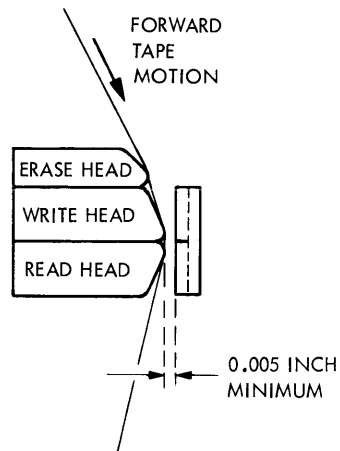

Figure 6-6. Flux Gate Adjustment
- (1) Perform an Unload operation and remove the reel of tape from the transport.
- (2) Adjust the small set screw in the flux gate base until the flux gate surface is parallel to the head surface.
- (3) Partially loosen the screw which secures the flux gate assembly to the head plate. Care should be taken to ensure that the flux gate spring does not move the assembly.
- (4) Place a white card (e.g., business card) between the flux gate and the magnetic head and press the flux gate assembly lightly against the head.
- (5) Figure 6-6 illustrates the correct relationship between the magnetic head and the flux gate.
- (6) Tighten the flux gate assembly screws.
- (7) Load a reel of tape and bring to Load Point; repeat the Test Procedure described in Paragraph 6.7.8.2.